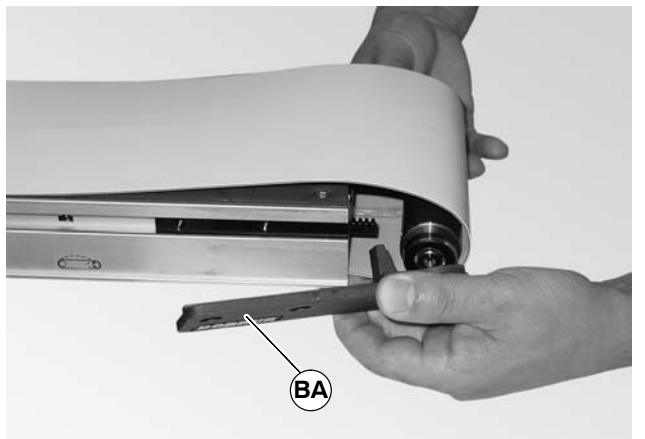

Figure 40
2. Place the head plate (BA of Figure 40) and attach the head plate to the conveyor frame with the two (2) screws removed and hand tighten.